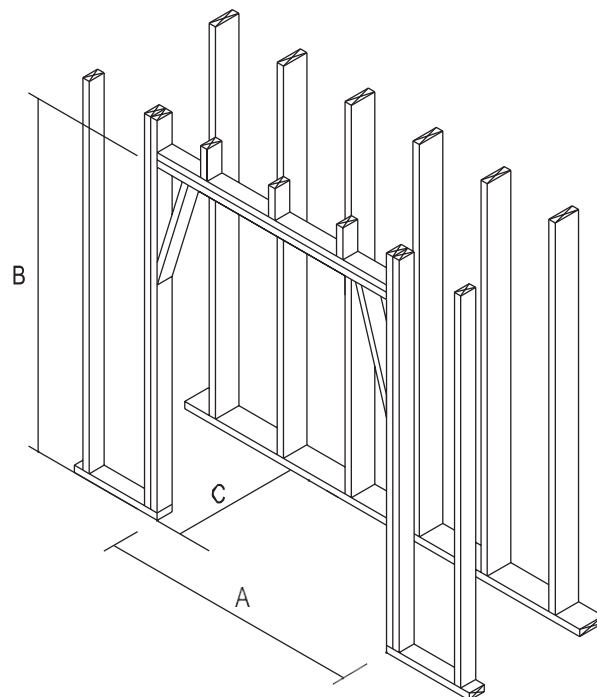

FIGURE 12
5. Rough framing dimension for depth "C" allows for the required 1½" clearance at the back of the Fireplace. 26 3/4" is only for an interior wall as most exterior wall framing have insulation, even if the wall is 2x6, the foam they spray expands so typically 31" is allowed on an exterior wall (Figure 12).
The following chart of dimensions detail the positioning of a STANDARD Series fireplace in a corner. It also details the positioning of DM chimney where it must turn 45° degrees if alignment is needed to overhead framing. (Figure 12 & 13)